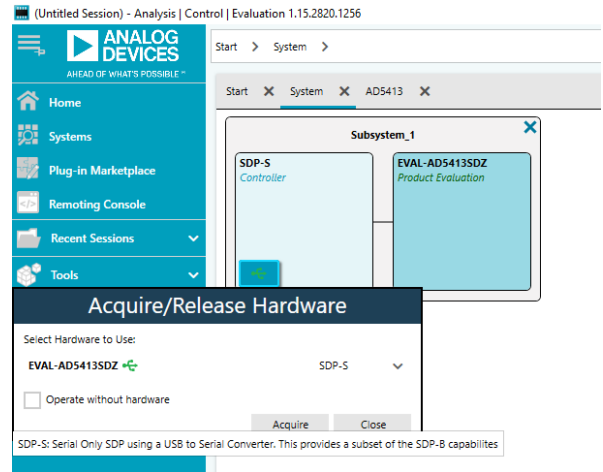

Figure 6. Reconnecting the USB
- Write the initial configuration values to clear these error flags. If the device is power cycled, or if the USB cable is disconnected and reconnected while the ACE software is open, contact with the EVAL-AD5413SDZ is lost. To regain contact, click the **System** tab, click the USB symbol on the SDP-S, and then click **Acquire** (see Figure 6).